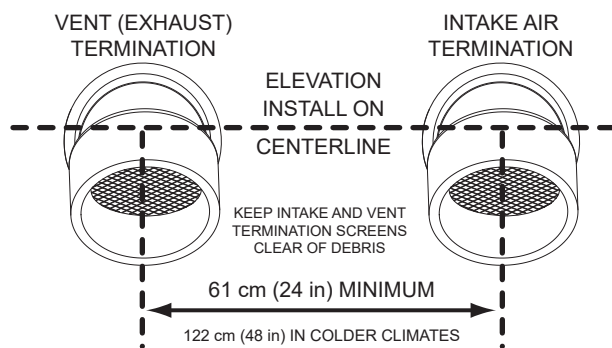

Figure 34. Sidewall Termination - Direct Vent
- If installing both an intake-air and vent termination in a direct-vent configuration through a sidewall, there must be a minimum of 24 in (61 cm) separation, measured on a vertical center line, between the intake-air and vent terminations. See **Figure 34**.
- If installing both intake-air and vent terminations in a Direct Vent configuration through a sidewall, the intake-air and vent terminations must be installed at the same elevation, measured on horizontal center line. See **Figure 34**.
However, the distance between the closest vent and intake-air terminations must be a minimum of 61 cm (24 inches). In colder climates, this separation should be increased to at least 122 cm (48 inches). See **Figure 34** (page 38).